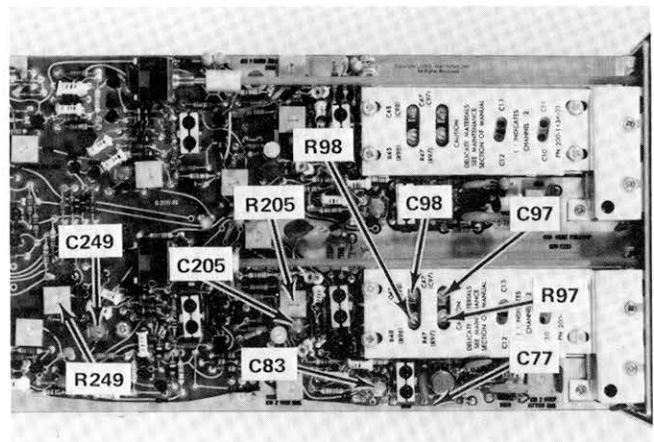

Fig. 5-21. Location of part of the CH 2 High-Frequency Compensation adjustments.
g. ADJUST—C77, C83, C205, R205, C249, R249, C402, C442, R442, and C443 (see Fig. 5-21 and 5-22) with a low-capacitance screwdriver, for the best flat-top waveform.
o. ADJUST—R97 and C97 (see Fig. 5-21) for optimum risetime and aberrations.
v. ADJUST—R98 and C98 (see Fig. 5-21) for optimum risetime and aberrations.